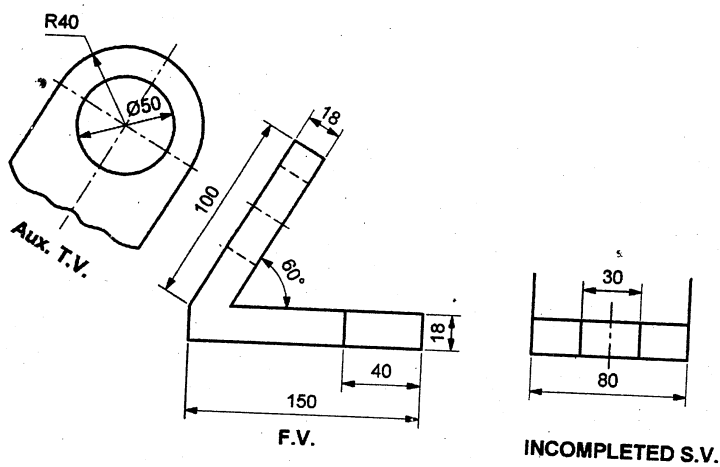

Fig. 2.
2. A) Fig. 2 shows front view, Auxiliary top view and incomplete side view. Using first angle method of projection, complete side view.